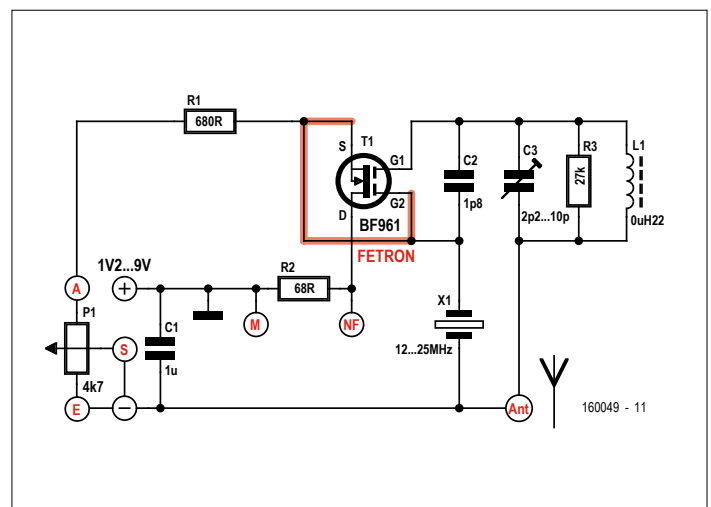

Figure 2. Circuit diagram of the picowatt transmitter with the Fetron substitute in common-source mode.
**Figure 2** shows a very low-power FM radio transmitter built with the "Fetron substitute" and a few additional components, which needs amazingly little operating current thanks to its inherently high internal impedance. Here the pseudo-Fetron is wired in common-source mode. The modulating signal from a low-impedance source is injected via the NF input terminal (referenced to the ground terminal M) to vary the supply voltage. The neat thing about this is that the oscillator continues operating at its resonant frequency with constant amplitude. The tracking range of the resonant frequency exactly corresponds to the audio modulation signal, but the amplitude modulation components to the left and right of the tracking range are effectively cut off. The result is exactly what you want: frequency modulation.